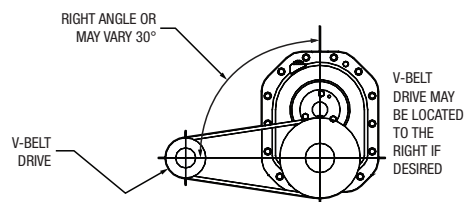

Figure 3 - Angle of V-Drive
5. If a Dodge Torque-Arm II motor mount is not being used, install motor and V-belt drive so belt will approximately be at right angles to the center line between driven and input shaft (Figure 3).